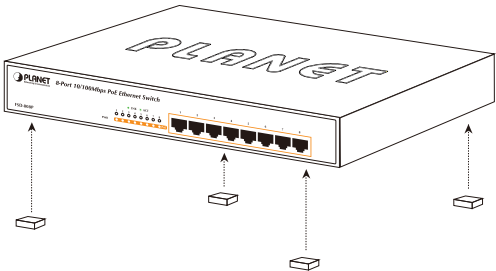

Figure 3-1: Attaching the Rubber Feet to the POE Fast Ethernet Switch
Step 1: Attach the rubber feet to the recessed areas on the bottom of the Switch, as shown in Figure 3-1.